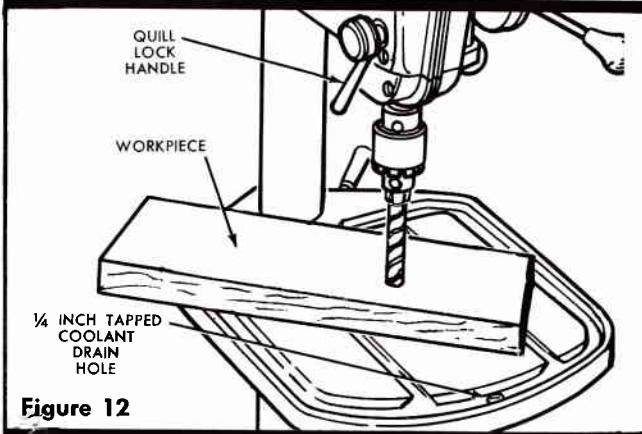

Figure 12
A. Provision has been made in front of the table for a 1/4-inch pipe fitting for a coolant drain (see figure 12). Coolant supply system is not furnished.
5. Preventing Movement of Workpiece When Drilling. To prevent work from being torn from operator's hands, position wood or metal items against the left side of the column. (See figure 12). If a workpiece is too short to reach the column, clamp it to the table or use a drill vise which should be clamped or bolted to table. Reduce rate of feed when drill starts to break through metal workpiece to prevent "grabbing" by the drill.